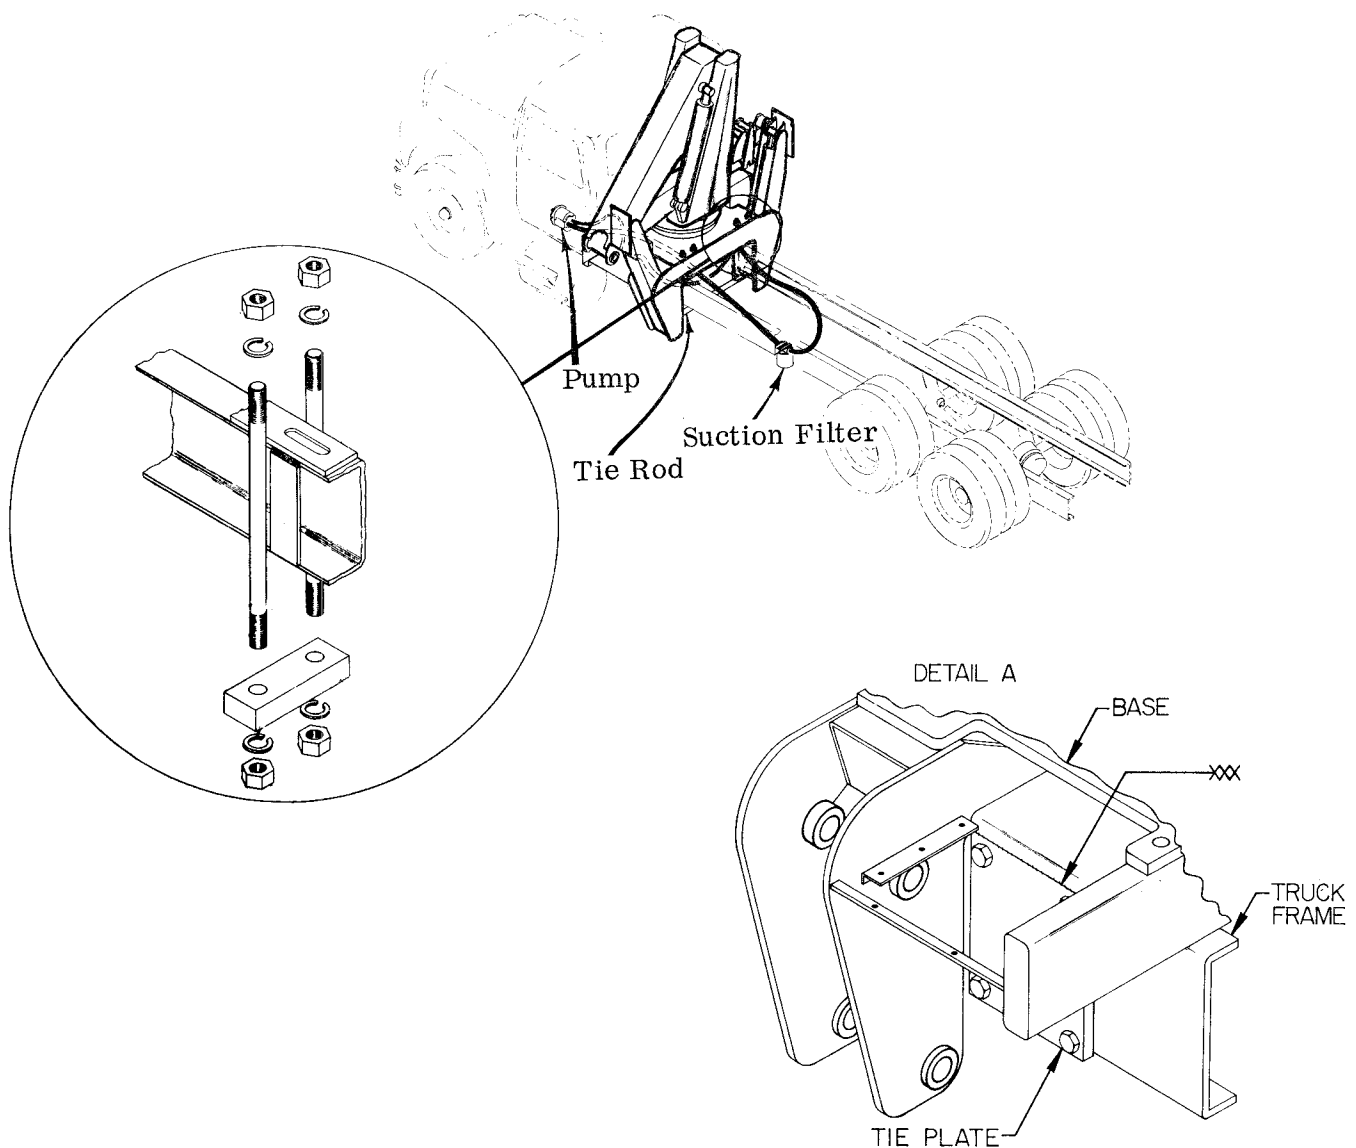

Figure H-2. Installation
6. Install the suction line filter below the top of the frame and within 48" of the pump (Figure H-2). Locate it in such a way as to make it easily accessible for service.
5. Reinforce frame flange by tack welding four flat bar strips vertically as shown in Figure H-2. The front pair should be centered 6" (15.24 cm) behind the cab and another pair centered 30" (76.20 cm) behind those. These bars will prevent frame flange collapse.
2. Install mounting bolts, clip bars, lock washers and nuts to secure crane base to chassis (Figure H-2). Torque mounting bolts (refer to Table I-2).
3. Bolt the tie plate (detail "A", Figure H-2) to the truck frame and weld it to the crane base. Use 3/8" steel plate, 10" x 12" for the tie plate. The bolts should be 3/4"-8, Grade 8. Torque to the proper value (refer to Table I-2).
1. Install the 1 1/4" ID suction hose, barbed nipples (2) and hose clamps (2) between the reservoir and the suction filter (Figure H-2). Cut hose to suit.
2. Install the 1 1/4" ID suction hose, barbed nipples (2) and hose clamps (2) between the filter and pump.
3. Install the 1/2" ID pressure hose and swivel hose fittings (2) between the pump and valve bank.